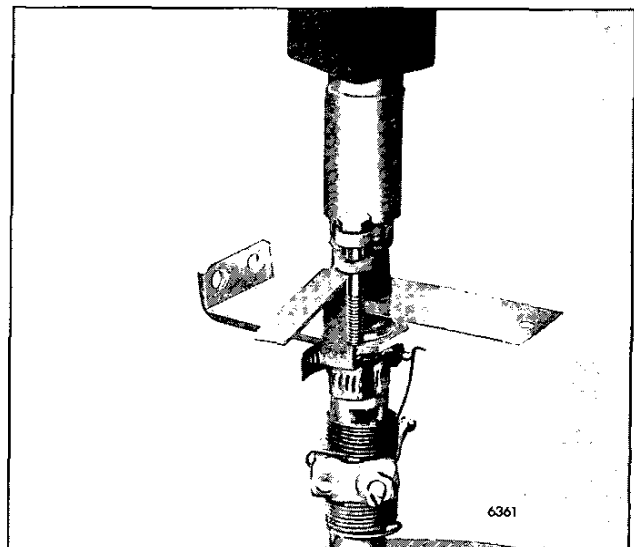

Fig. 7 - Installing New Lever
5. Reinsert the 1/4" x 1-3/4" L. bolt through the end of a new lever and press the lever onto the control tube with the bolt resting against the indexing bracket (Fig. 7). Place a .011" feeler gage under the lever to get proper clearance between the lever and the spacer on the control tube. Before pressing on the lever, make sure the opposite end of the control tube is supported.